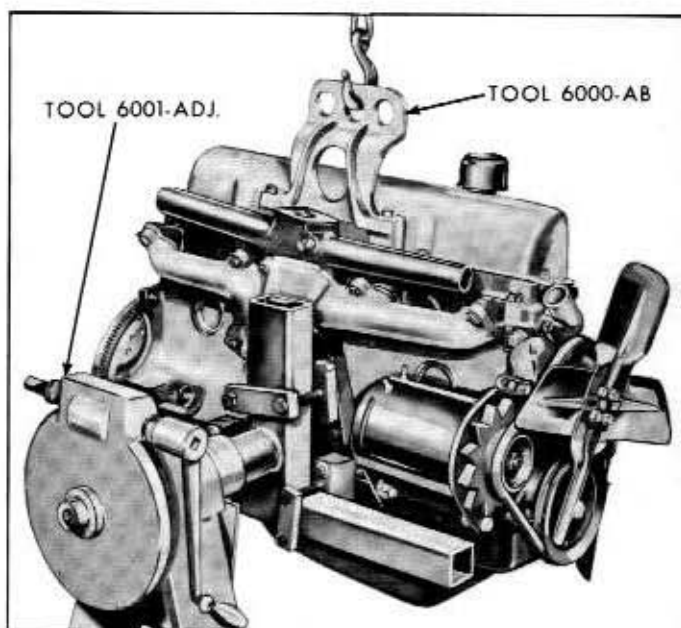

Fig. 6A-13—Installation of Engine on Repair Stand—Typical—(60C-5613)
13. Lower the car. Support the transmission and flywheel or converter housing with a jack. The engine rear support shown in figure 6A-74, need not be disturbed when removing the engine after it has been detached from the transmission.
16. Position the lifting hook on the engine with the spacers between the hook and cylinder head. Secure the lifting hook to the engine with thru bolts. Tighten the bolts to the proper torque. Carefully lift the engine out of the engine compartment and install it on a repair stand. Refer to figure 6A-13.